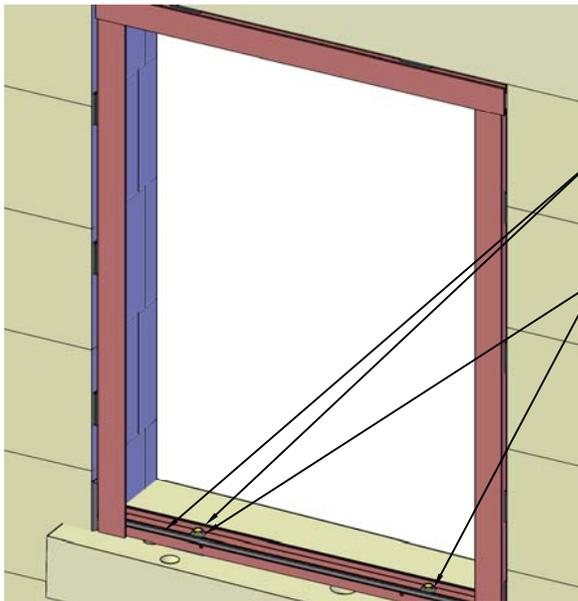

Fig. 16 - Viewed from Building Exterior
11) Seal all sill anchor heads with silicone sealant. Inspect and make sure that no debris is left in the sub sill which might clog the weep holes. Lay a small continuous bead of silicone sealant on each of the horizontal surfaces of the sub sill which will support the window unit(s). See Fig. 16 & 17